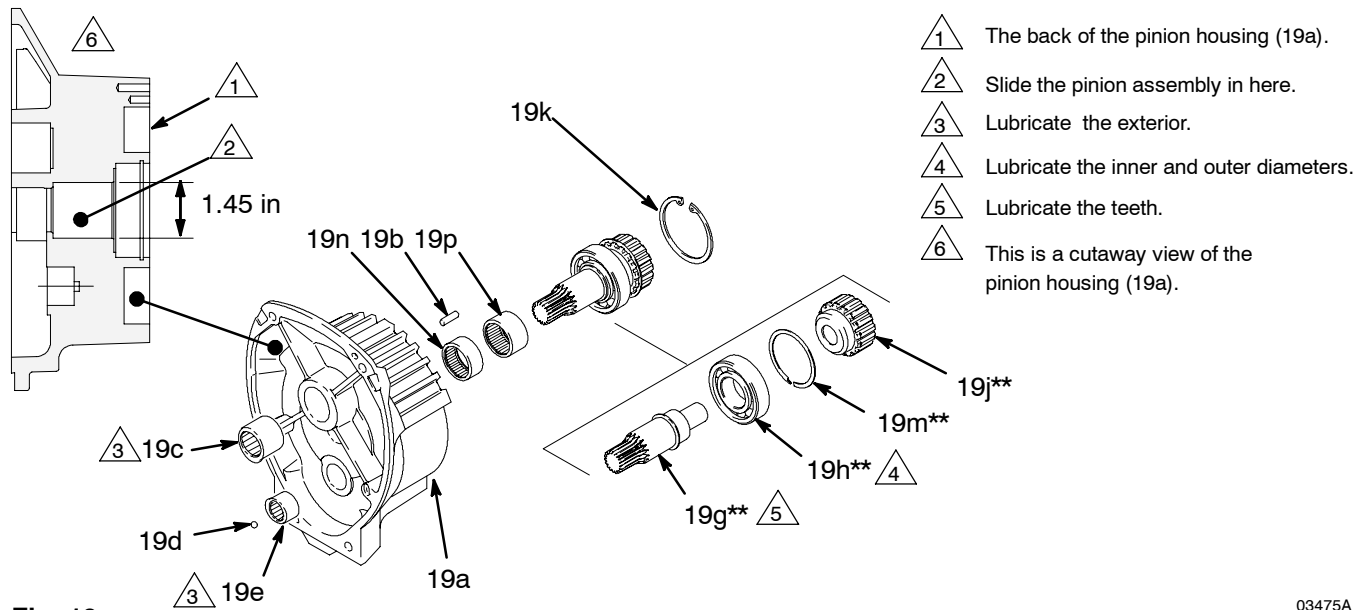

Fig. 10
2. Remove the two bottom screws (10) and lockwashers (11) first, then remove the two side screws (10) and lockwashers (11), and last remove the top screw (10) and lockwasher (11).
3. Pull the pinion housing (19) away from the clutch housing. The armature (4a) will come with it.
4. Pull the armature (4a) off the hub (19j) of the pinion housing. Also see Fig. 10.
**NOTE:** Refer to Fig. 10 except where noted.
5. Apply lubricant to the parts as shown in Fig. 10.